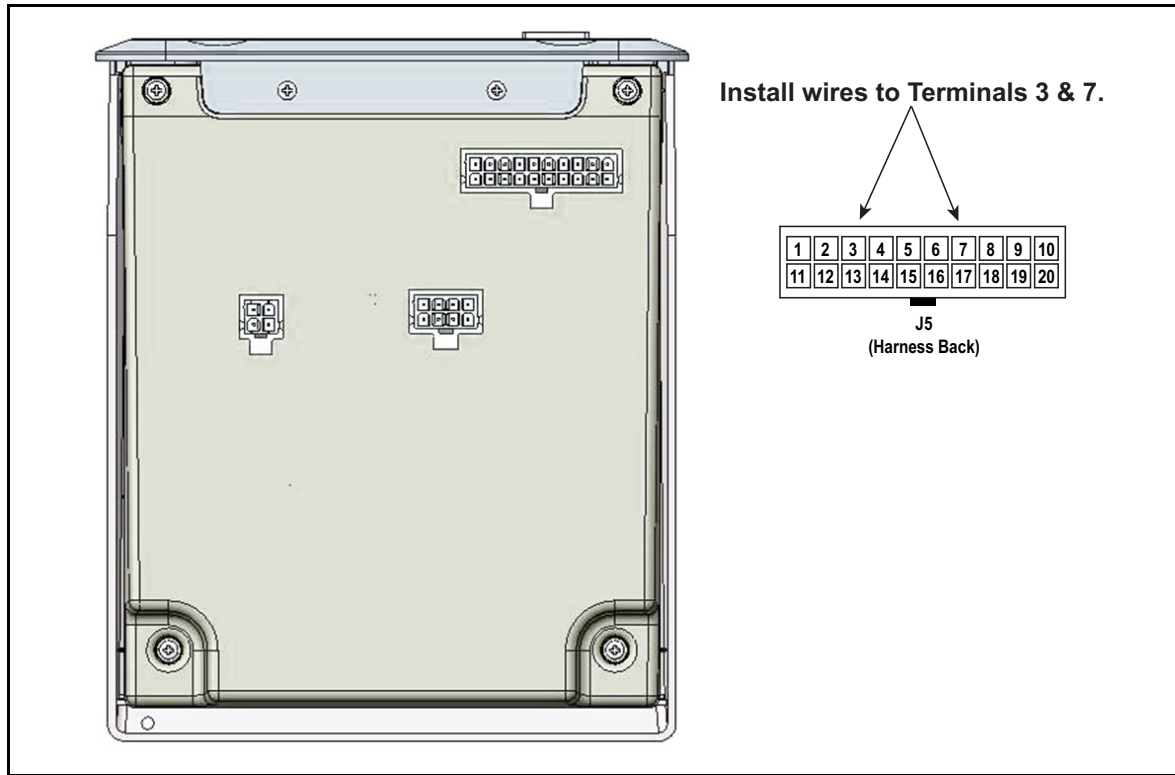

Figure 2 - Backside of PowerPact Controller
1. See **Figure 2**. Unplug the 20 pin wire harness connector (J5) from the controller panel by carefully releasing the latch on the side of the connector.